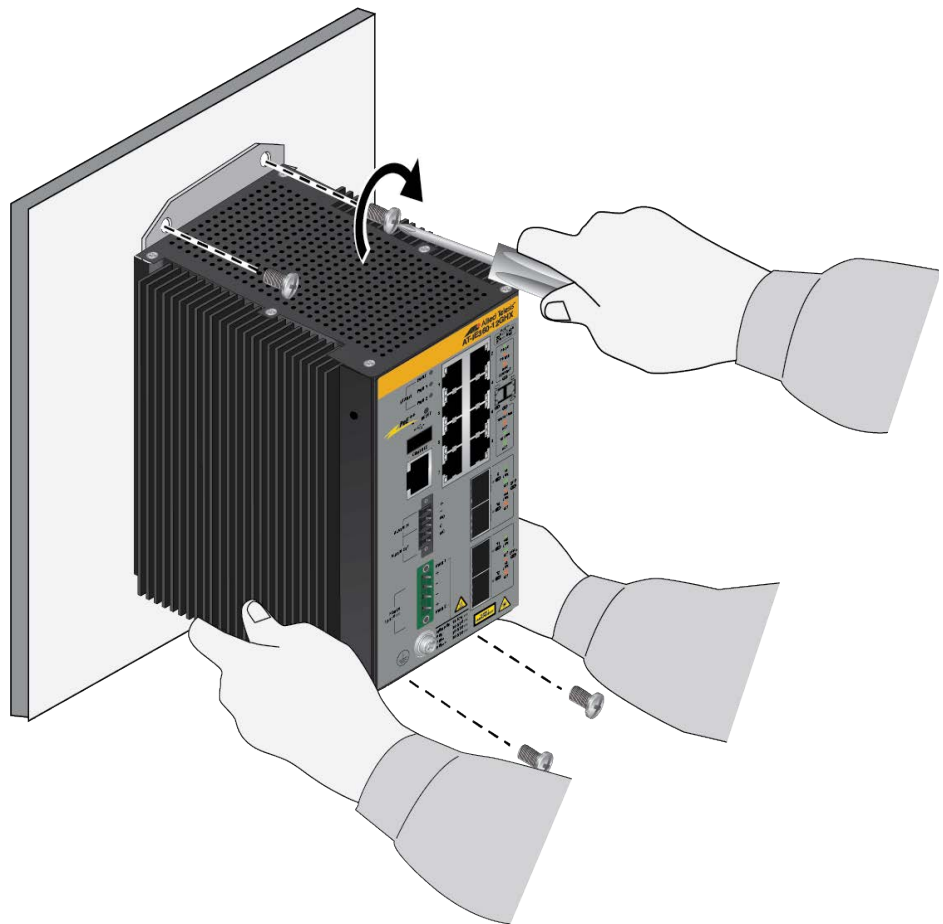

Figure 39. Installing the Switch on a Concrete Wall
10. Have another person hold the switch at the selected wall location while you secure it with four screws (not provided). Refer to the anchor datasheet from the manufacturer for the recommended torque value for the screws. Refer to Figure 39.